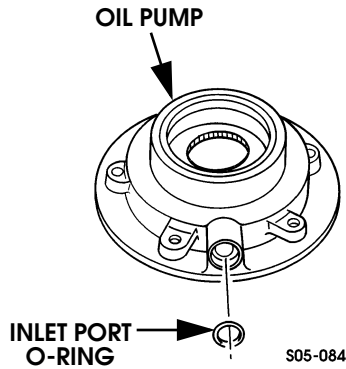

Figure 5-90: Oil Pump O-ring Location
10. Remove O-ring from oil pump inlet port (Figure 5-90).